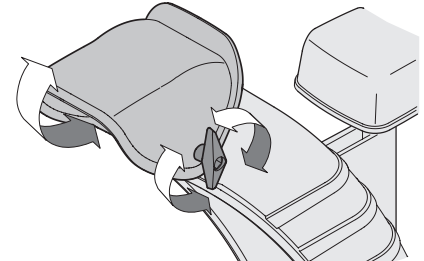

Figure 2-38
1. Loosen wing knob found on left side of chute assembly. See Figure 2-38.